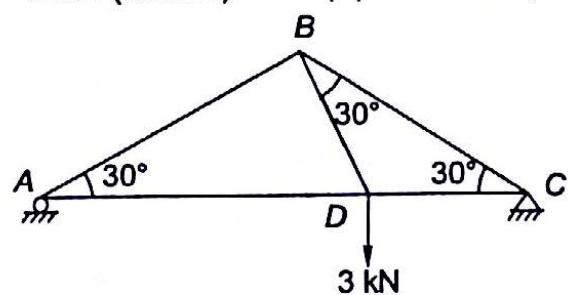

Fig. 4.43
- 4.14** A truss $ABCD$ roller supported at A hinged at C , carries a vertical load of 3 kN at D as shown in Fig. 4.43. What is the magnitude and nature of force in member AB ?